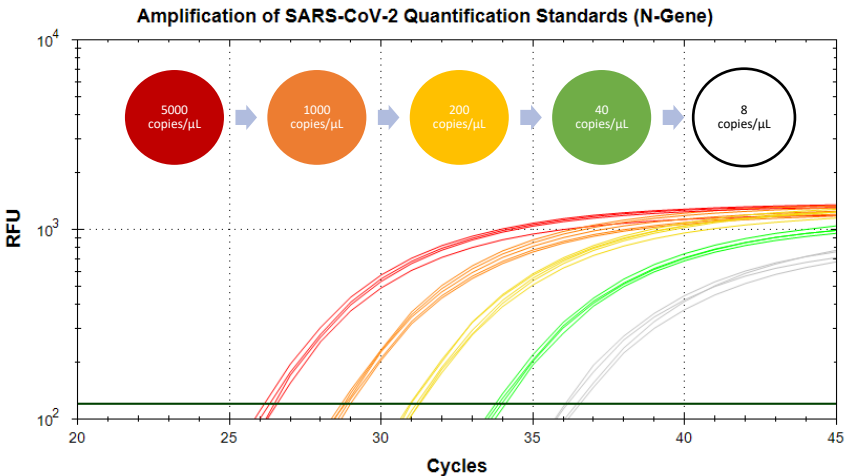

Figure 1: Resulting amplification curves of **SARS-CoV-2 Quantification Standards** using recommended **Quick-SARS-CoV-2 Multiplex Kit** master mix.
The **SARS-CoV-2 Quantification Standards** consists of a set of synthetic SARS-CoV-2 **nucleocapsid (N) gene** RNA at varying concentrations. These standards are ready to plate, allowing users to easily quantify levels of SARS-CoV-2 present in their samples (Figs 1 and 2).